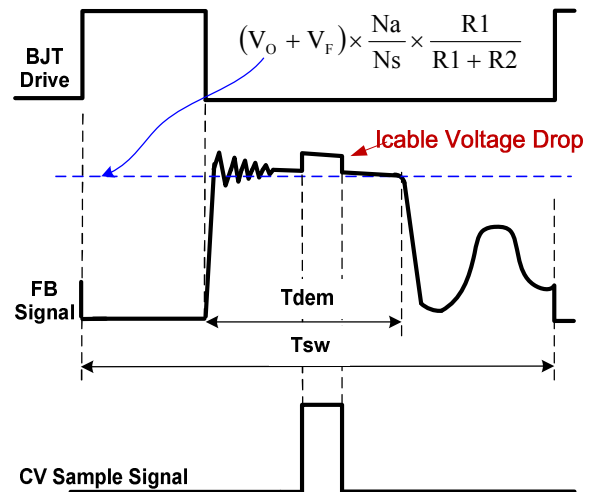

Fig.2
transformer energy to the secondary. Fig.2 illustrates the CV sampling signal timing waveform in DP25133. As shown in Fig.2, it is clear that there is a down slope representing a decreasing total rectifier V_f and its voltage drop as the secondary current decreases to zero. To achieve an accurate representation of the secondary output voltage on the auxiliary winding, the CV sampling signal blocks the leakage inductance reset and ringing. When the CV sampling process is over, the internal sample/hold (S&H) circuit captures the error signal and amplifies it through the internal Error Amplifier (EA). The output of EA is sent to the Primary Side Constant Voltage Modulator (PSR-CVM) for CV control. The internal reference voltage for EA is trimmed to 2V with high accuracy.
During the CV sampling process, an internal variable current source is flowing to FB pin for Cable Drop Compensation (CDC). Thus, there is a step at FB pin in the transformer demagnetization process, as shown in Fig.2. Fig.2 also illustrates the equation for “demagnetization plateau”, where V_o and V_f is the output voltage and diode forward voltage; R_1 and R_2 is the resistor divider connected from the auxiliary winding to FB Pin, N_s and N_a are secondary winding and auxiliary winding respectively.